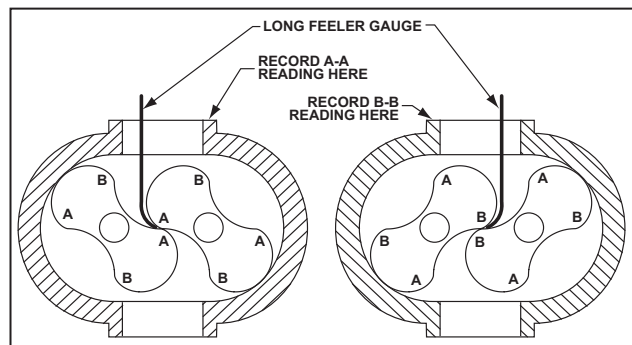

Figure 15 - Checking Rotor Interlobe Clearance
18. Using feeler gauges take interlobe readings and record on each side of housing as indicated in Figure 15. By removing or adding shim behind the helical gear, it rotates as it is moved in or out and the driven rotor turns with it, thus changing the clearance between rotor lobes.
EXAMPLE: Referring to Figure 15 to the right, check the clearance a AA (right hand reading) and BB (left hand reading). If AA reading is .009" (.23 mm) and BB reading .003" (.08 mm) by removing .006" (.15 mm) shims, the readings will change one-half the amount removed or .003" (.08 mm) AA should then read .006" (.15 mm) and BB should read .006" (.15 mm). The final reading should be within .002" (.05 mm) of each other.
EXAMPLE: Referring to Figure 15, check the clearance at AA (right hand reading) and BB (left hand reading). If AA reading is .017" (.43 mm) and BB reading is .004" (.10 mm), by removing .018" (.46 mm) shims, the readings should then read AA .011" (.28 mm) and BB .010" (.25 mm).